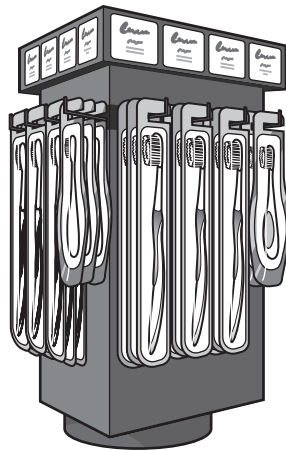

Fig. 1
16 Fig. 1 shows a Point of Sale Display stand (POSD) for toothbrushes.
- (a) The toothbrush POSD shown in Fig. 1 can be both functional and aesthetic. Explain the terms functional and aesthetic, giving one example for each.
- (b) Give **two** reasons why corrugated card has been used for the toothbrush POSD shown in Fig. 1.
- (c) The toothbrush POSD shown in Fig. 1 is to be manufactured and delivered to the retailer in flat-pack form.
- (d) The manufacturer wants to re-design the toothbrush POSD shown in Fig. 1 to make it more interesting to the consumer by adding a smart material.